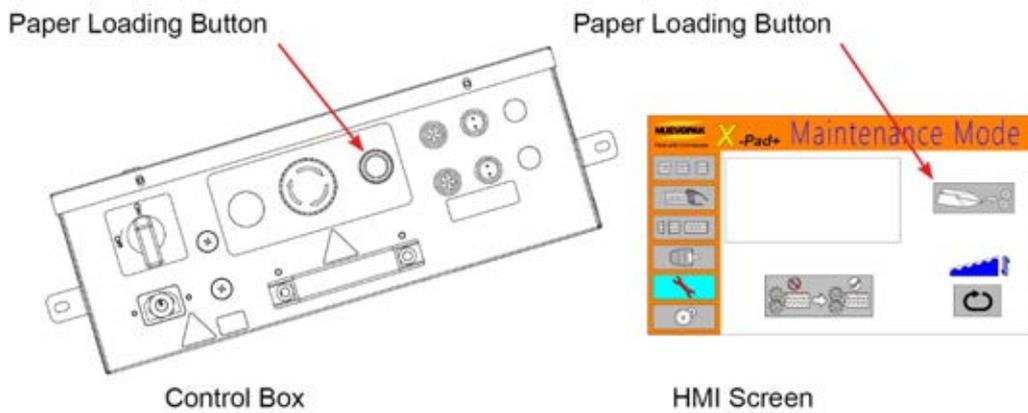

Figure 19 Paper Loading Button
- b. **Step 2** Lift and curve the paper edge on the front edge of the wheel and push the paper in. Repeat the motions until the running gears catch the paper (refer to Figure 19).
3. Guide the paper onto the pre-former (refer to Figure 19).